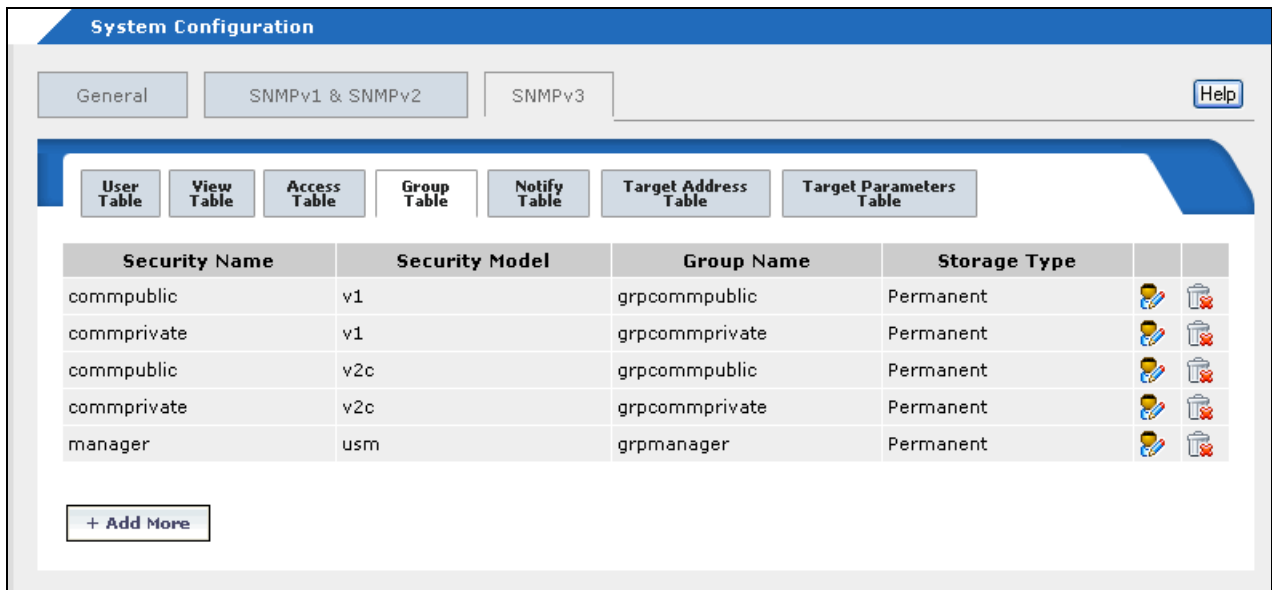

Figure 118. SNMPv3 Group Table Tab
- ❑ :Click the **Configuration** button in the menu bar and then select the **SNMPv3** tab and the **Group Table** tab. The tab is shown in Figure 118.